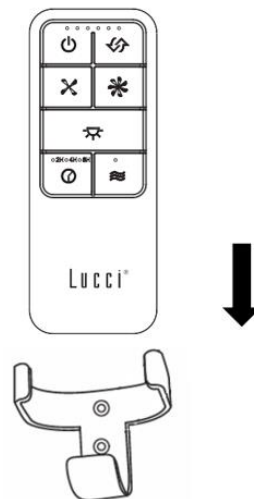

Fig. 10b
2. Slide the remote into the holder. (Fig. 10b)